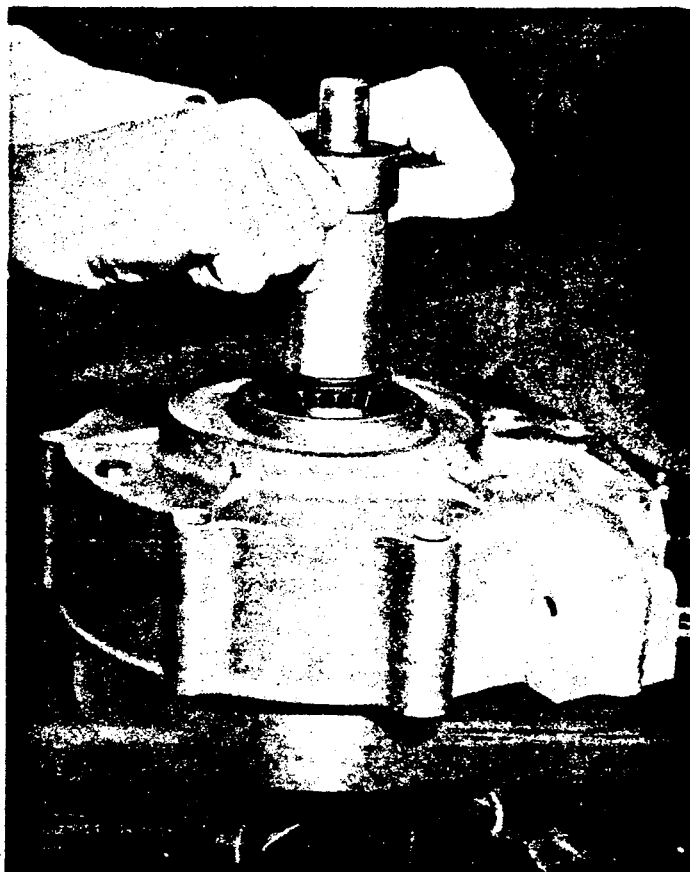

Figure 9.
Start driver (3) on screw and bring driver down against sleeve (4), as shown in Figure 9.